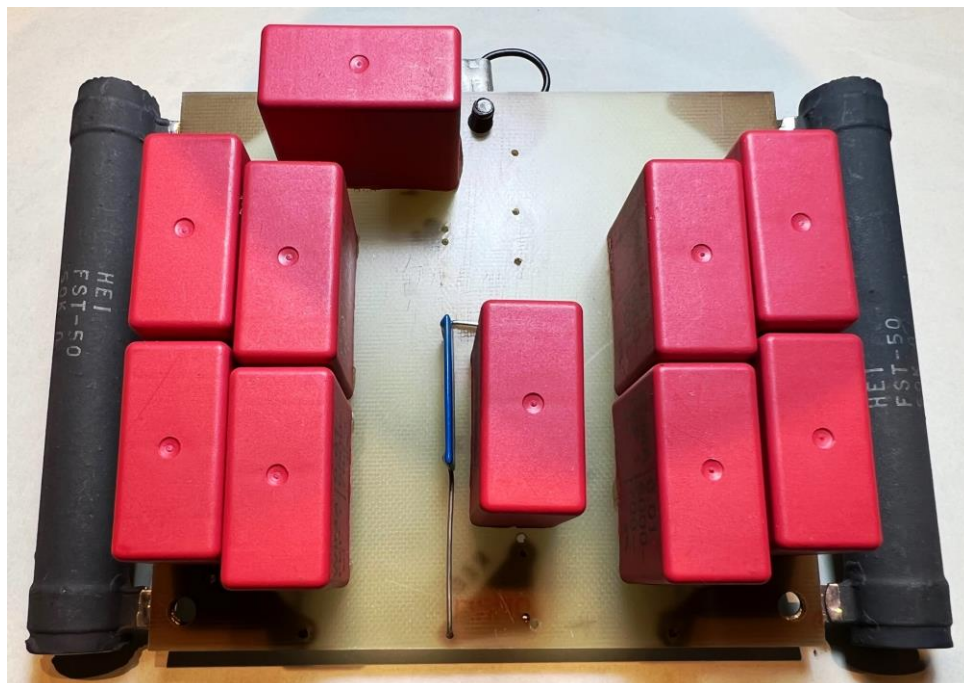

Figure 9. Bottom side of rebuilt high-voltage board (*added 1st capacitor in centre, added 2nd capacitor at top-left*).
impact and was probably sufficient. Nevertheless, I left the circuit as is with both WIMA polypropylene capacitors connected (Fig. 9).
- To double the voltage rating and achieve a wider safety margin, capacitors C4 and C5 were configured as a set of 4 (total 8 for one board) in a series/parallel configuration (Fig. 9), providing 0.01  $\mu\text{F}$  with effective voltage rating of 12 kV DC and 1400 VAC RMS.
- As mentioned, to double the voltage rating and achieve a wider safety margin, the WIMA high-voltage audio capacitors rated 6 kV DC and 700 VAC RMS were configured as a set of 4 (total 8 for one board) in a series/parallel configuration (Fig. 9), providing 0.01 uF with effective voltage rating of 12 kV DC and 1400 VAC RMS.